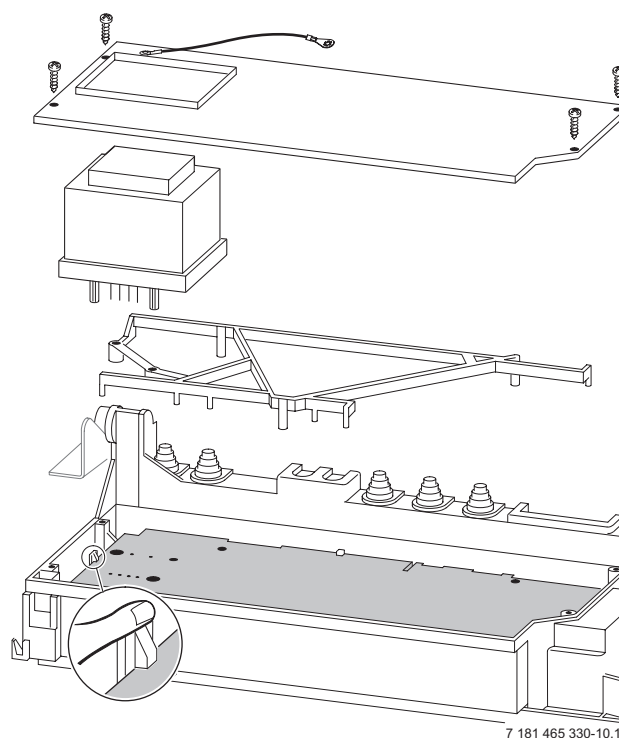

Fig. 53
- Unscrew four fixing screws from cover plate. Refer to fig. 53.